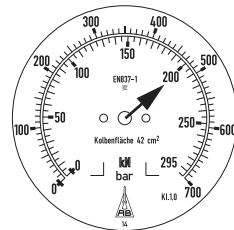

Fig. 16
5. Open the pump valve (11b) in a counterclockwise direction and monitor the display (Fig. 16) on the manometer (10).
8. Repeat the procedure until the pre-determined load specification of the project-specific static and lowering plan is displayed on the manometer. (Fig. 16)